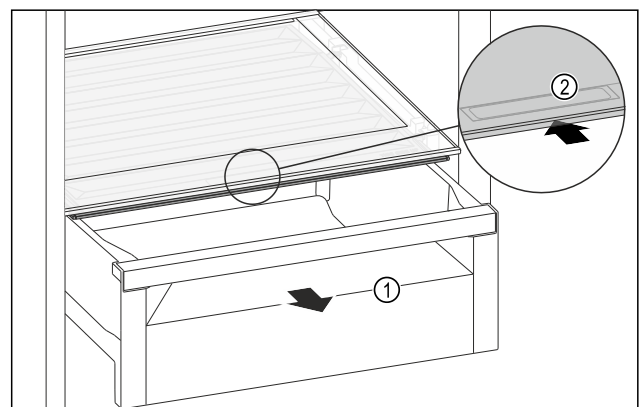

Fig. 194
- Pull out the drawer Fig. 194 (1).
- Grasp the recessed grip Fig. 194 (2) on the compartment lid and push the compartment lid backwards at the same time.